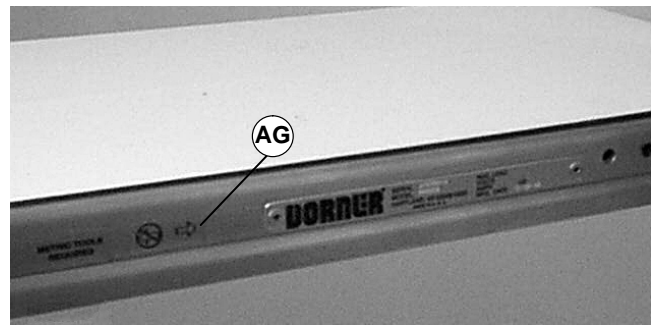
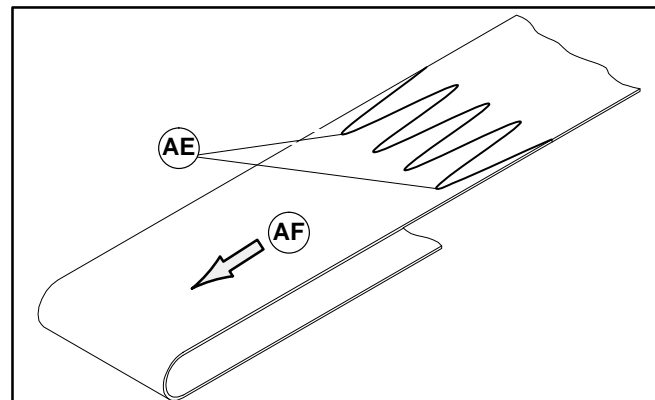

Figure 24
Figure 25
IMPORTANT: On a flat belt conveyor, the wiper is installed on discharge end. Belt travel direction is identified by an arrow decal on the side of the conveyor (AG of Figure 24). With a reversing gearmotor, a second bottom wiper must be installed on opposite end.
1. Orient the conveyor belt so that the splice leading fingers (AE of Figure 25) point in the direction of belt travel (AF) as identified by the label (AG of Figure 24).